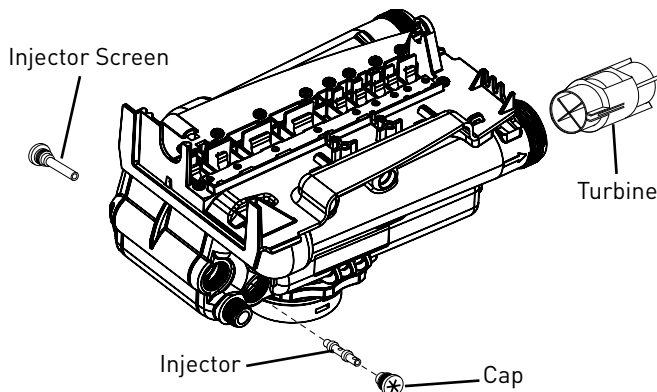

Figure 18
4. Using a screwdriver, remove injector screen and injector cap (Figure 18).
4. Using a needle-nose pliers, remove the turbine from the outlet housing. Grasp one of the four vanes of the outer gland and pull straight out to remove turbine assembly from the outlet of the valve (Figure 18).